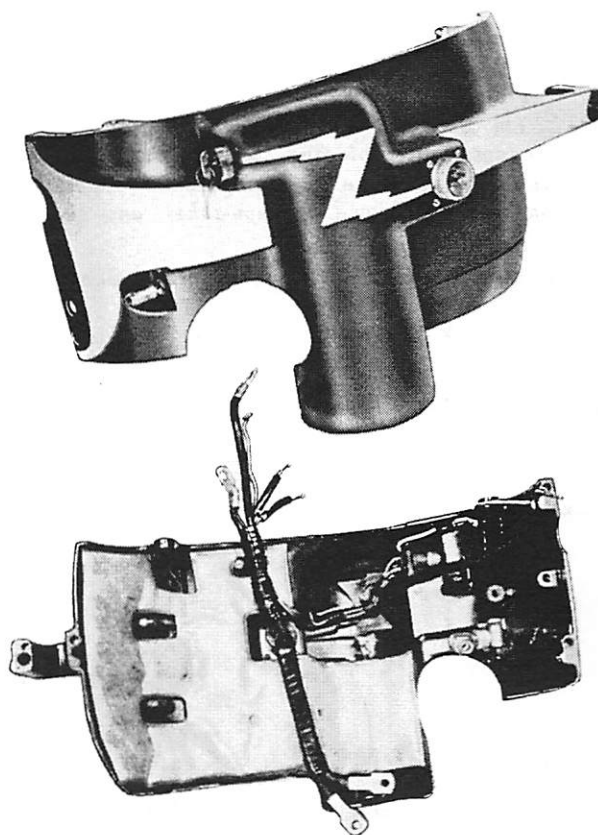

Figure 1. Mark 25E Cowl, Left Side
NOTE: On Mark 25, disassemble adaptor assembly, remove fuel inlet line and pry out cup washer. Other parts fall out. Sound absorbing blankets, to reduce nominal powerhead sound, are attached to right and left cowls of Mark 25 with a special adhesive. (Figure 1) This adhesive (C-92-25234) in 2 oz. tube is also included in a kit (A-25232) of sound absorbing blankets for installation on Mark 20-15 models.
1. Port side of cowl contains electric starting switch and wiring harness. (Figure 1) For repair of these components, refer to Starter Section VII.